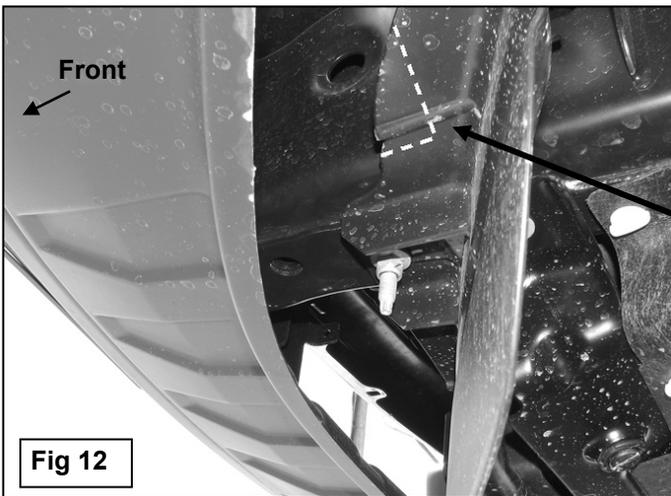

Fig 12
7. Once the driver and passenger side Support Bracket assemblies have been partially installed, push the Support Brackets as far forward on the frame as possible. **NOTE:** Hardware must be loose-remove the lower 12mm x 150mm Hex Bolt if necessary. Reinstall the air dam. Pull the Bracket assemblies back into position with the Outer Support Bracket against the body mount, (**Figures 11 & 15**). The Outer Support Bracket must be tight against the factory frame mount when properly installed, (**Figures 10, 11 & 15**). The Support Brackets are designed to fit over and around the factory air dam but depending on model and year, the air dam may require some trimming to clear the Outer Brackets, (**Figures 12 - 14**).